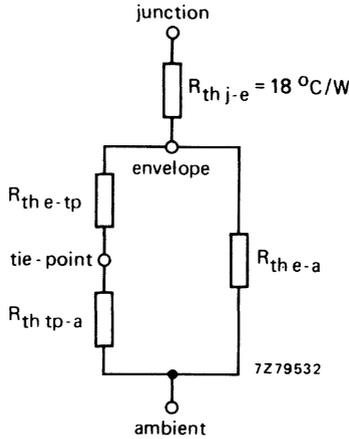

Fig. 11.
**Influence of mounting method** (see also OPERATING NOTES and Fig. 11)